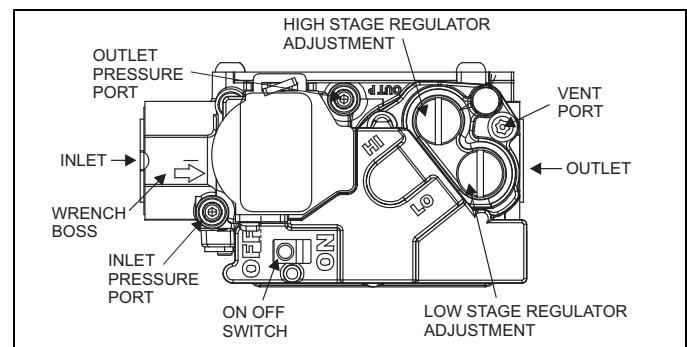

FIGURE 39: Gas Valve
Inlet and manifold gas pressure may be measured by connecting the "U" tube manometer to the gas valve with a piece of tubing. Follow the appropriate section in the instructions below. Refer to Figure 39 for a drawing of the locations of the pressure ports on the gas valve.
This gas valve has separate regulator adjustment screws for high fire and low fire, as shown in Figure 39. The procedure below is used to adjust either the high fire manifold pressure or the low fire manifold pressure.
1. Refer to Figure 39 for location of pressure regulator adjustment cap and adjustment screws on main gas valve.